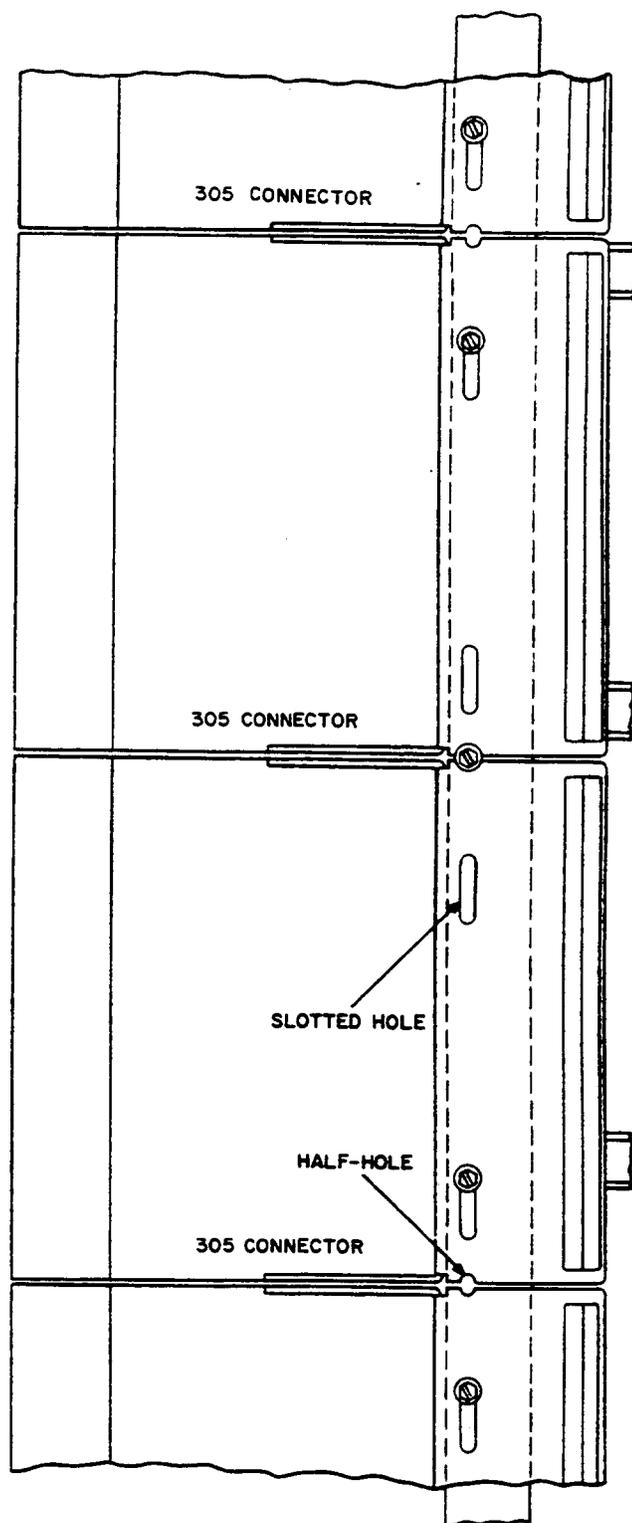
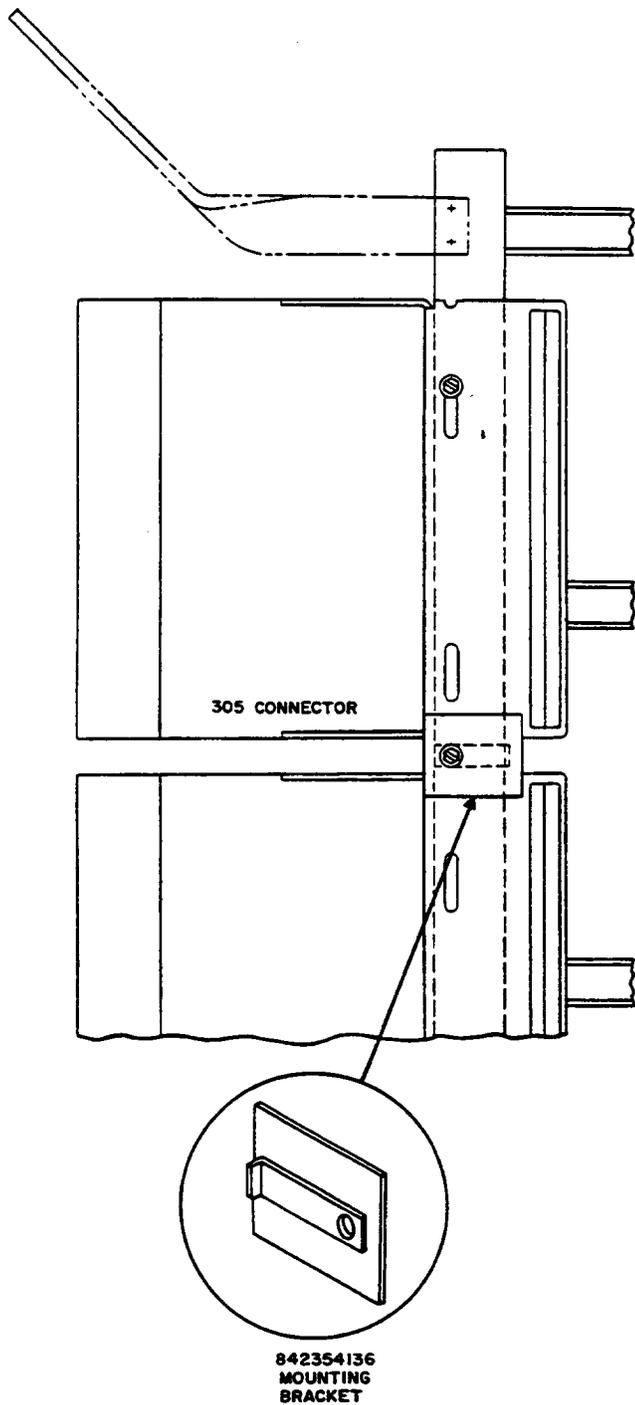

Figure 3—Typical Mounting Arrangement for 305-Type Connectors on a Tall Conventional MDF Using Existing Mounting Holes
Figure 4—Typical Mounting Arrangement for a 305-Type Connector at Top of a Tall Conventional MDF Vertical
- (1) Open the cable entrance slots or ferrules in the floor, in accordance with local instructions.
- (2) **Mark** the cable number and pair count of each connector stub cable on a linen tag or glass tape and **attach** to stub cable prior to placing it through the floor to the cable entrance facility.
*For tall conventional MDFs which have mounting holes drilled for mounting C-50-, 300-, 301-, and 303-type connectors: Utilize the same mounting holes for the 305-type connector as shown in Figure 3. The mounting bracket of the 305-type connector has two slotted mounting holes and a half hole at each end. Each 305-type connector is attached to the frame vertical by utilizing one slotted hole and one half hole. Since the mounting hole pattern differs at the top and bottom of most tall conventional MDF verticals, a mounting bracket must be used (Figure 4 and 5). The 842354136 mounting bracket must be ordered separately.*